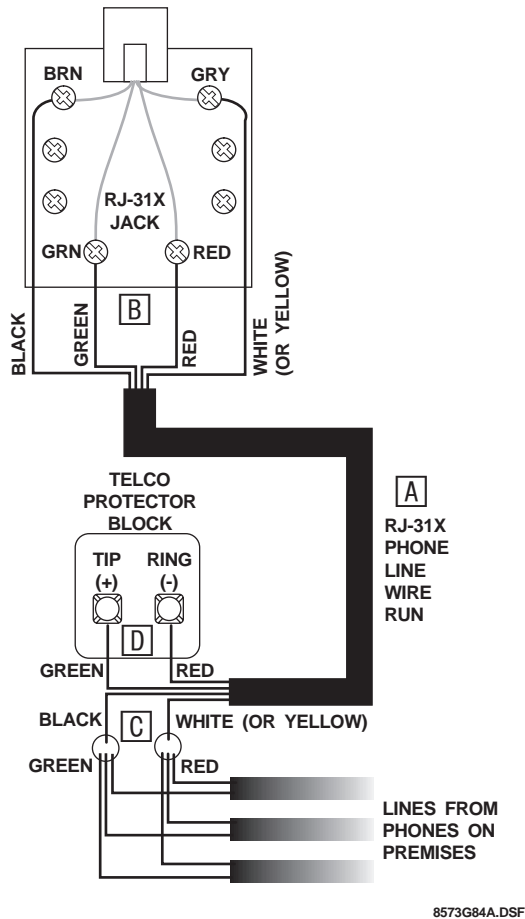

Figure 29. Installing an RJ-31X Phone Jack
1. Run a 4-conductor cable from the TELCO protector block to the jack location (see **A** in Figure 29).
2. Connect one end of the cable to the jack (see **B** in Figure 29).
3. At the TELCO protector block, remove the premises phone lines (lines from phone jacks on premises) from the block and splice them to the black and white (or yellow) wires of the 4-conductor cable (see **C** in Figure 29).
4. Connect the green and red wires from the 4-conductor cable to the TIP (+) and RING (-) posts on the block (see **D** in Figure 29).